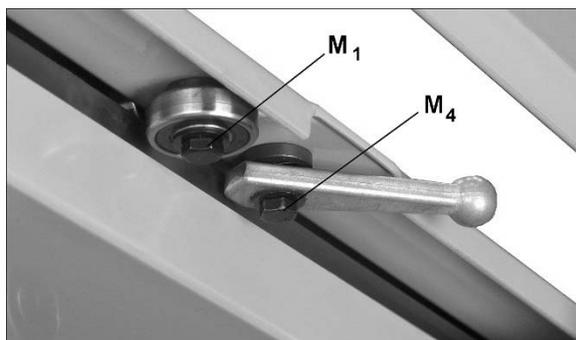
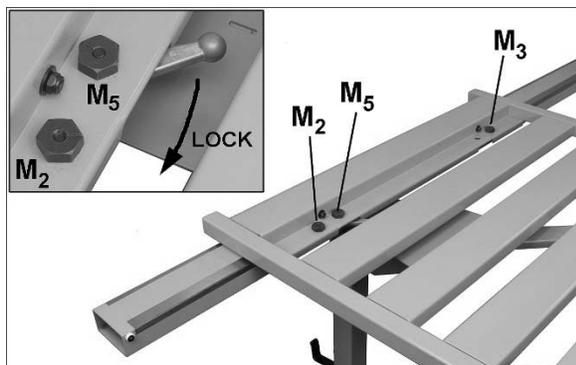

Figure 7-12
Figure 7-13
1. To correct lateral play, loosen bearing screw ( $M_1$ , Figure 7-12), and turn eccentric nut ( $M_2$ , Figure 7-13) until bearing slightly contacts outer rail. Do not adjust bearing too tightly against rail. Tighten screw ( $M_1$ ).
3. Move table lock handle (inset, Figure 7-13) to locking position. If handle movement is too tight or too loose, loosen screw ( $M_4$ ) and adjust eccentric nut ( $M_5$ ) using same method, then retighten screw.